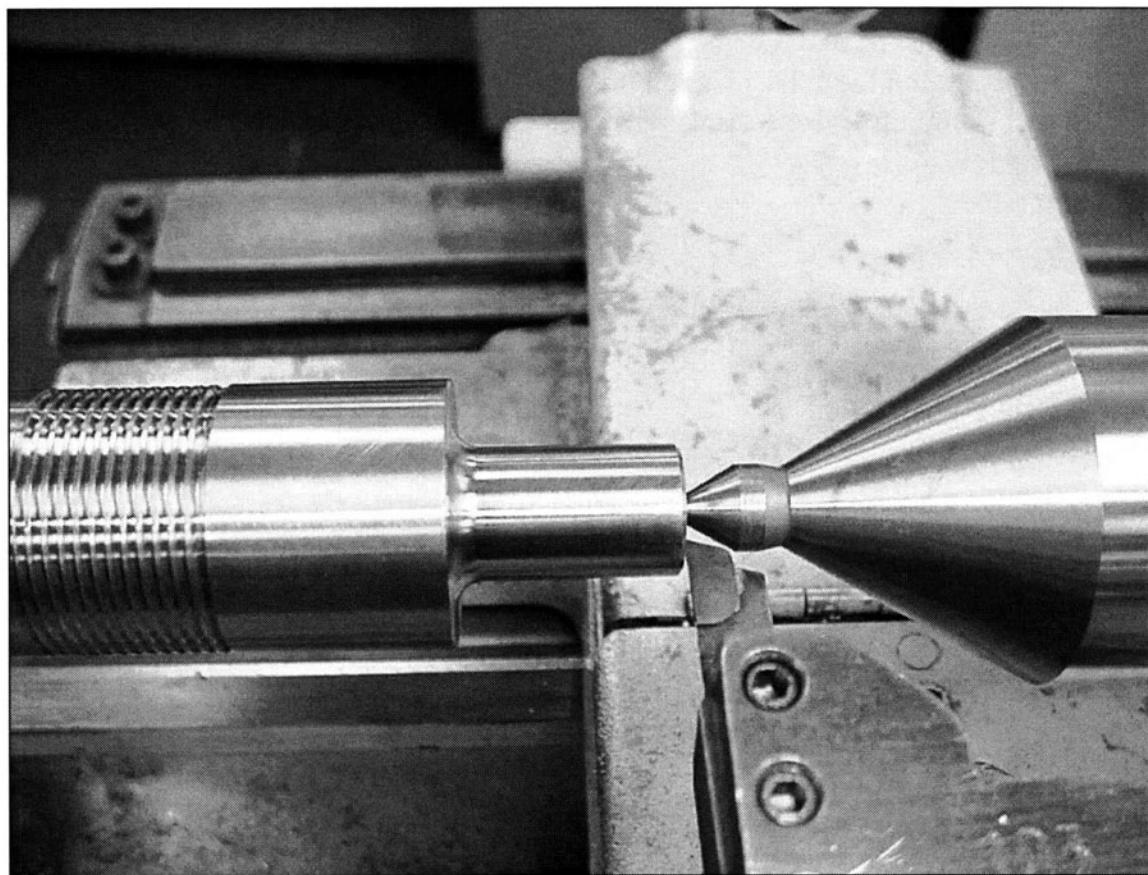

FIGURE 4-13 Live centers with protruding points provide better tool clearance when working near the tailstock.
17. *Use live centers. (See Fig. 4-13)*